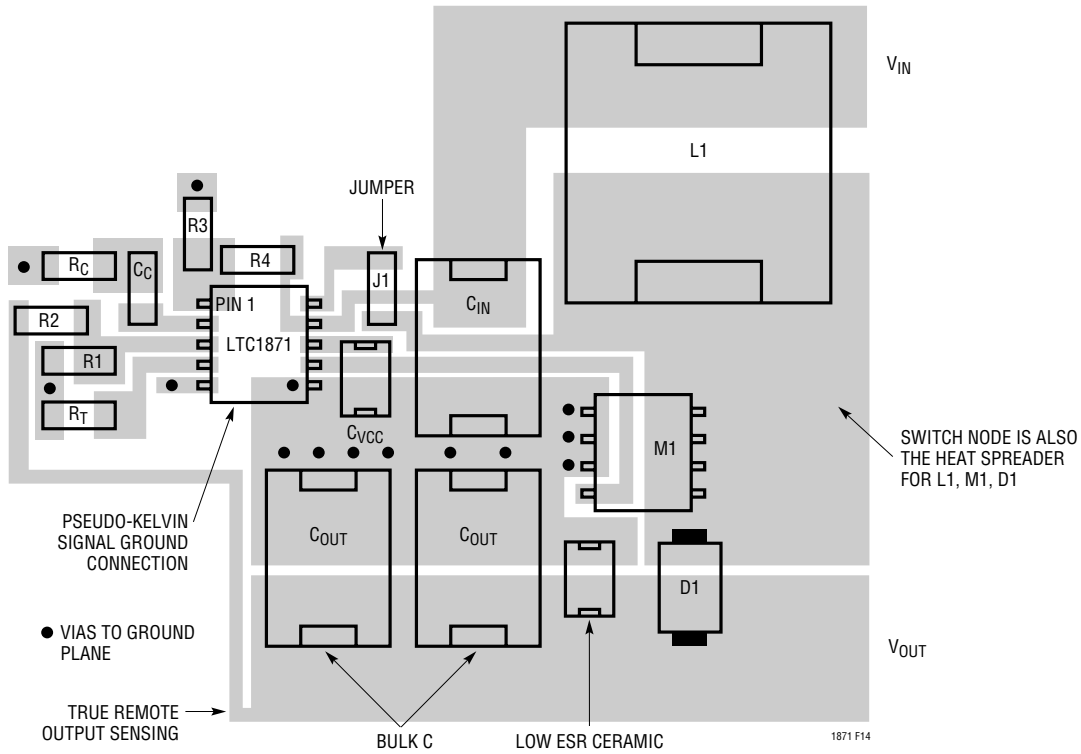

Figure 14. LTC1871 Boost Converter Suggested Layout
- Place the small-signal components away from high frequency switching nodes. In the layout shown in Figure 14, all of the small-signal components have been placed on one side of the IC and all of the power components have been placed on the other. This also allows the use of a pseudo-Kelvin connection for the signal ground, where high di/dt gate driver currents flow out of the IC ground pin in one direction (to the bottom plate of the  $INTV_{CC}$  decoupling capacitor) and small-signal currents flow in the other direction.